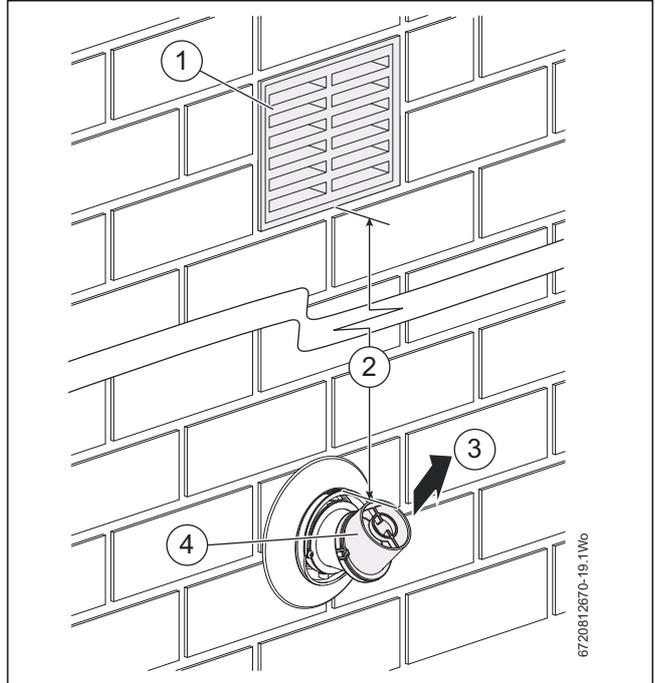

Fig. 20 Plume redirect distance to opening
- ▶ The flue terminal outlet position must follow those shown in figure 20.